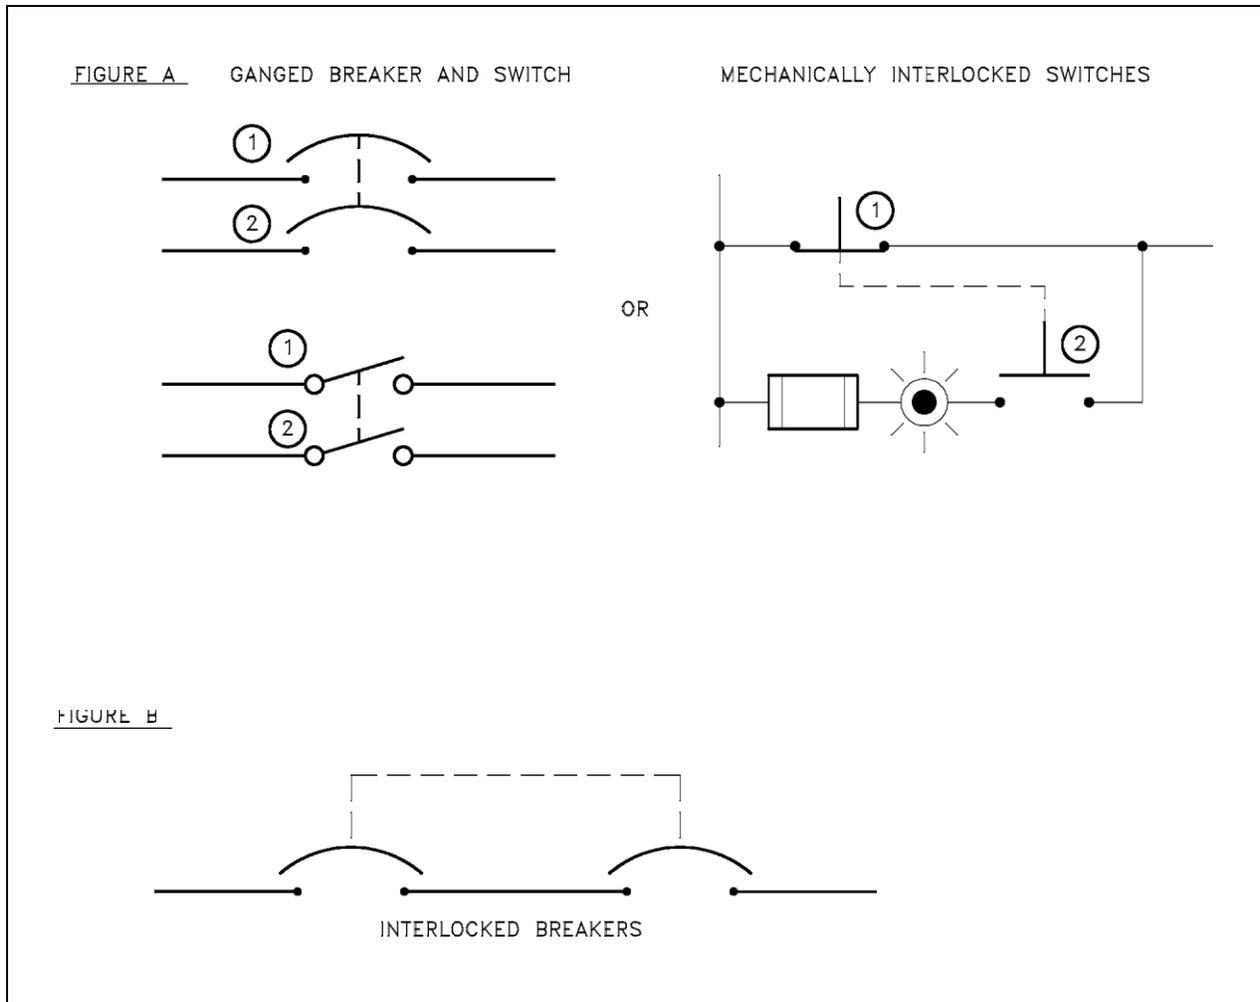

Figure 15 Ganged Switch Symboly
When a switch is used in a circuit, it may contain several sets of contacts or small switches internal to it. The internal switches are shown individually on a schematic. In many cases, the position of one internal switch will affect the position of another. Such switches are called *ganged* switches and are symbolized by connecting them with a dashed line as shown in Figure 15 (A). In that example, closing Switch 1 also closes Switch 2. The dashed line is also used to indicate a mechanical interlock between two circuit components. Figure 15 (B) shows two breakers with an interlock between them.